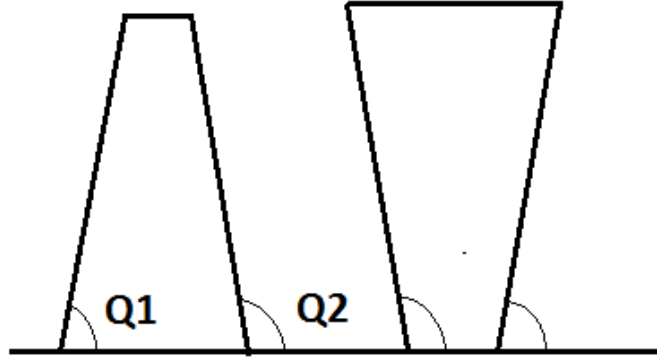

Figure 2.3: Blade QO line angles
14. The next input has to do with the taper and sweep of the blade rows. The user is asked to fill in the QO angles at the leading and trailing edge of the first and second blade row. In Figure 2.3, an illustration is provided of the meaning of these angles, where Q1 and Q2 are the respective leading and trailing edge QO angles. If the user were to fill in 90 degrees for all QO angles, both blade rows would consist of blades with a taper ratio of 1.0.